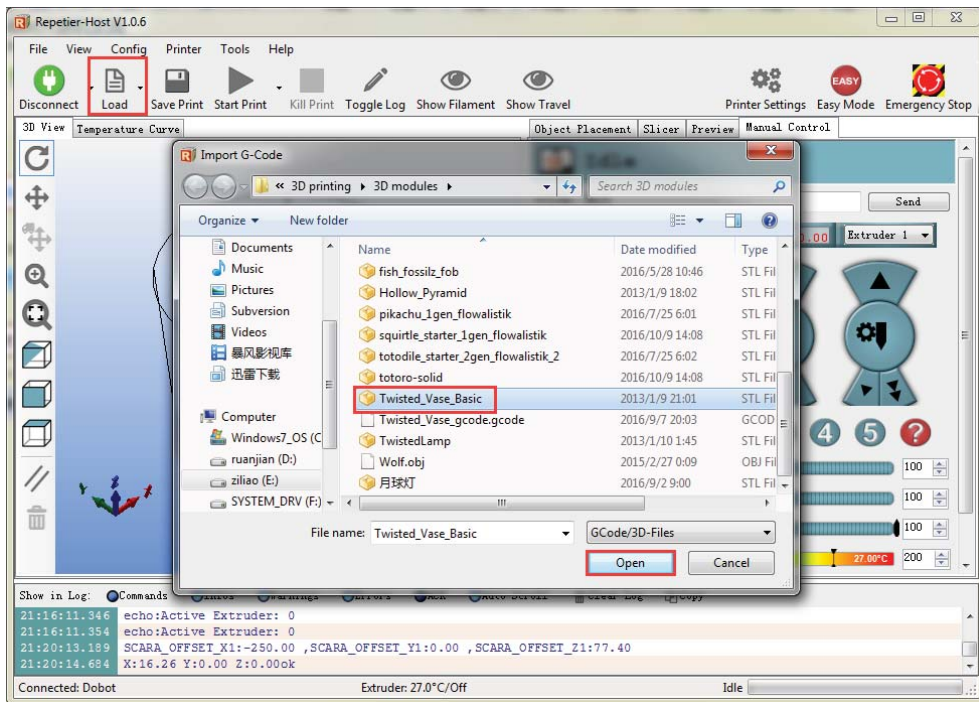

Figure 5.136 Import 3D printing Model
Step 5 Click **Load** to import the prepared 3D printing model, as shown in Figure 5.136.